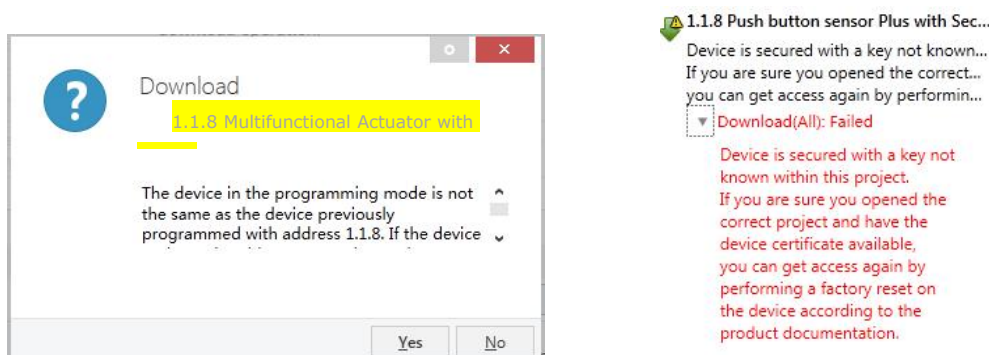

Fig. 5.1(6) Example
After the device is downloaded successfully, the label Add Device Certificate turns gray, indicating that the key for this device has been assigned successfully, as shown in Fig.5.1(7) below.